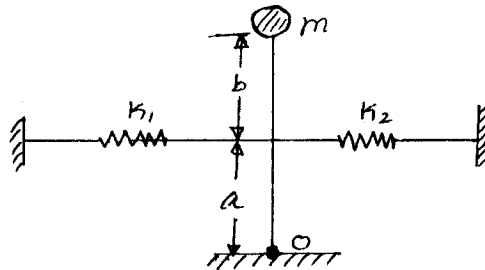

Fig. Q2 (b)
- b. Find the natural frequency of vibration of the system shown in Fig.Q2(b) for small amplitudes. If  $K_1$ ,  $K_2$ ,  $a$  and  $b$  are fixed, determine the value of  $b$  for which the system will not vibrate. Find maximum acceleration of the mass. (12 Marks)